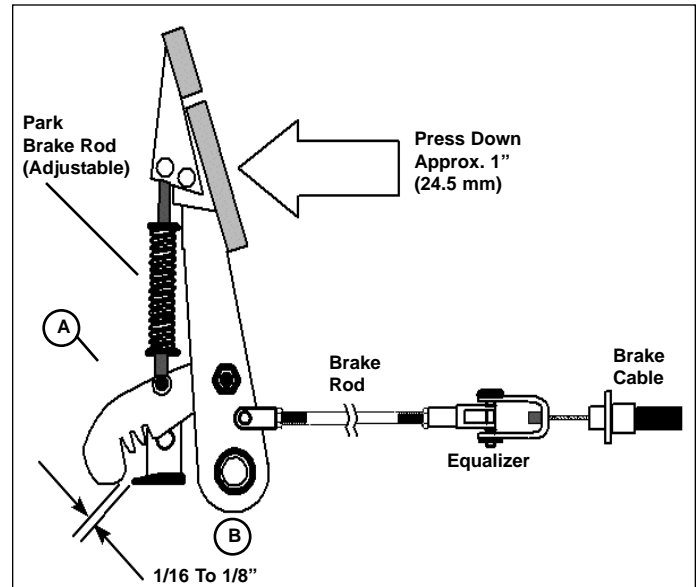

Figure 2 - Brake and Park Brake Adjustment
- A brake equalizer is used to evenly pull both brake cables. The brake equalizer floats to create equal tension to each brake cable. See Figure 2.
- Parking brake is applied by depressing parking brake pad at top of brake pedal. See Figure 2. Pressing on park brake pad applies brakes and locks pedal in applied position. Parking brake is released by depressing on main brake pedal or by depressing accelerator pedal
1. View down through the opening of the floor board while gently pressing on the brake pedal pad. As you press on the brake pedal pad, observe the space or gap between the brake ratchet end and the brake ratchet pawl (Figure 2). This gap should be no greater than 1/8 inch and no less than 1/16 inch.